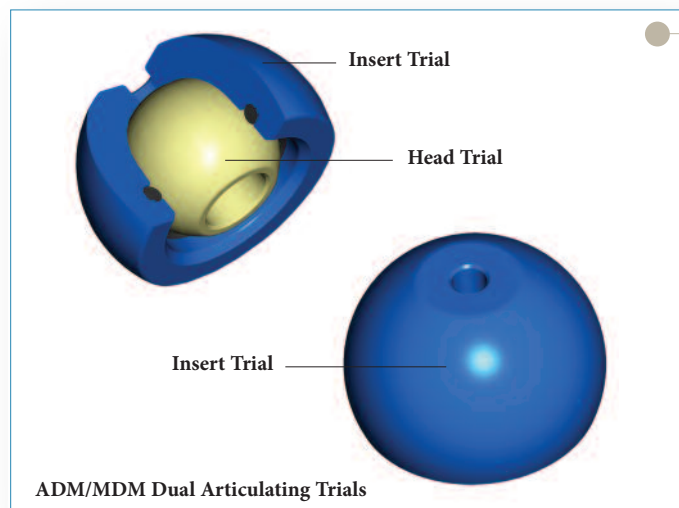

Figure 13a
- ▶ If using the ADM/MDM Dual Articulating Trials, place the 28mm Head Trial into the appropriate Insert Trial to mimic the final articulation function of the ADM System (**Figure 13a**). The size of the insert trial will correspond with the cup being implanted (**Table 1**). When implanting a 54mm shell for instance, a 54mm Insert Trial (28/54/48G) and 28mm Head Trial should be used.